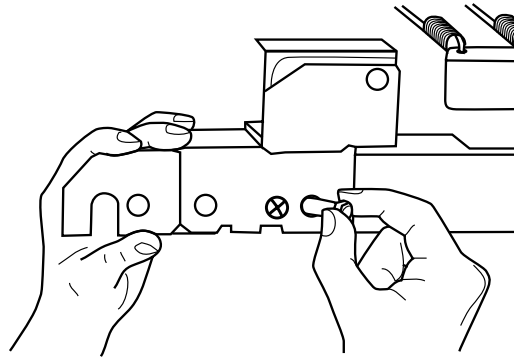

FIGURE 1 - ATTACHING FOUR-INCH EXTENSION TO FOOT SPRING CENTER ANGLE
1. Attach four-inch extension (**Items 1 and 2**) to the right and left hand sides of the foot spring center angle using 5/16-18 x 1-inch Bolt (**Item 8**) and Bi-way Locknut (**Item 7**). Refer to **FIGURE 1**. Securely tighten.